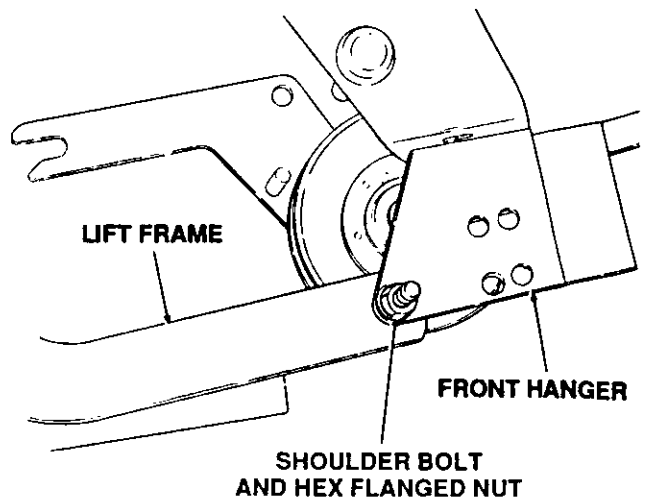

Figure 5
1. Attach front hanger to the lift frame with shoulder bolts and hex flanged locknuts. Refer to Figure 5 to determine proper mounting hole. Head of shoulder bolts is positioned to inside of frame. Torque nuts to 33 to 37 ft-lbs. (45 to 50 N-m).